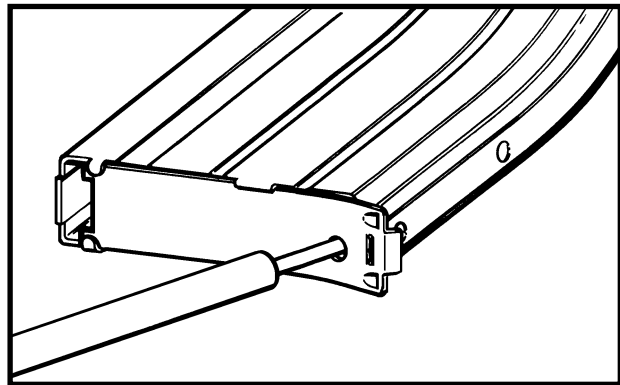

Figure 3-2-62 Lifting the Metal Magazine Bottom Plate
78. To disassemble the metal magazine check figure 3-2-62 and proceed as follows: